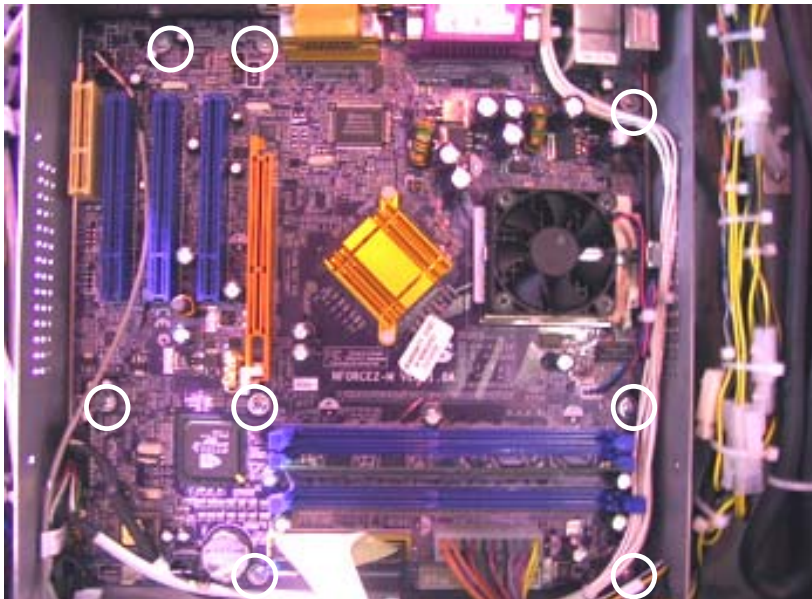

FIGURE 3 - SCREWS SECURING ECS MOTHERBOARD
8. Remove the 8 screws securing the motherboard to the electronics box. See Figure 3.
1. Set the motherboard in place within the electronics box, then secure the board with the 8 existing screws. See Figure 3.